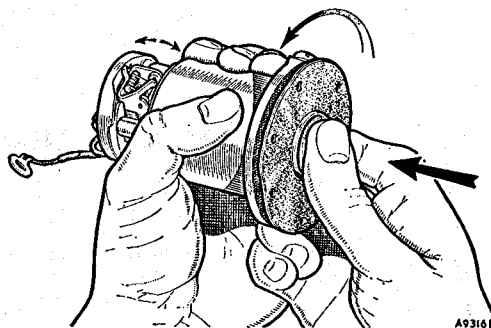

Fig. 7. Setting the diaphragm. Unscrew until the rocker just 'throws over'
11. Holding the coil housing assembly in the left hand in an approximately horizontal position (see Fig. 7), push the diaphragm spindle in with the thumb of the right hand, pushing firmly but steadily. Unscrew the diaphragm, pressing and releasing with the thumb of the right hand until the rocker just 'throws over'. Now turn the diaphragm back (unscrew) to the nearest hole and then again 4 holes (two-thirds of a complete turn). The diaphragm is now correctly set.